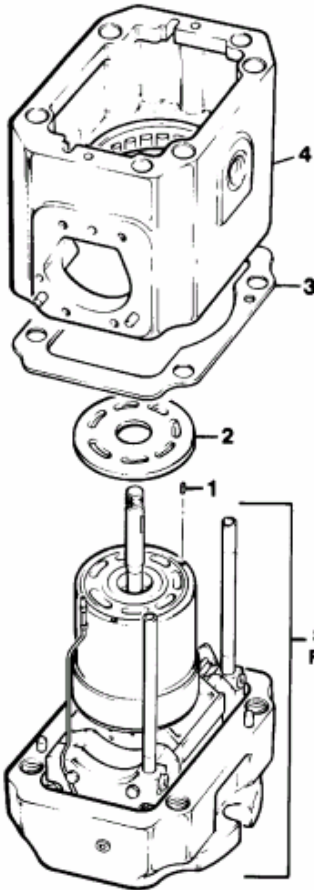

Figure 6
See Figure 6. Install the three face plate pins (1) in the holes provided in the barrel face.
**PARTS LIST FOR FIGURE 6**